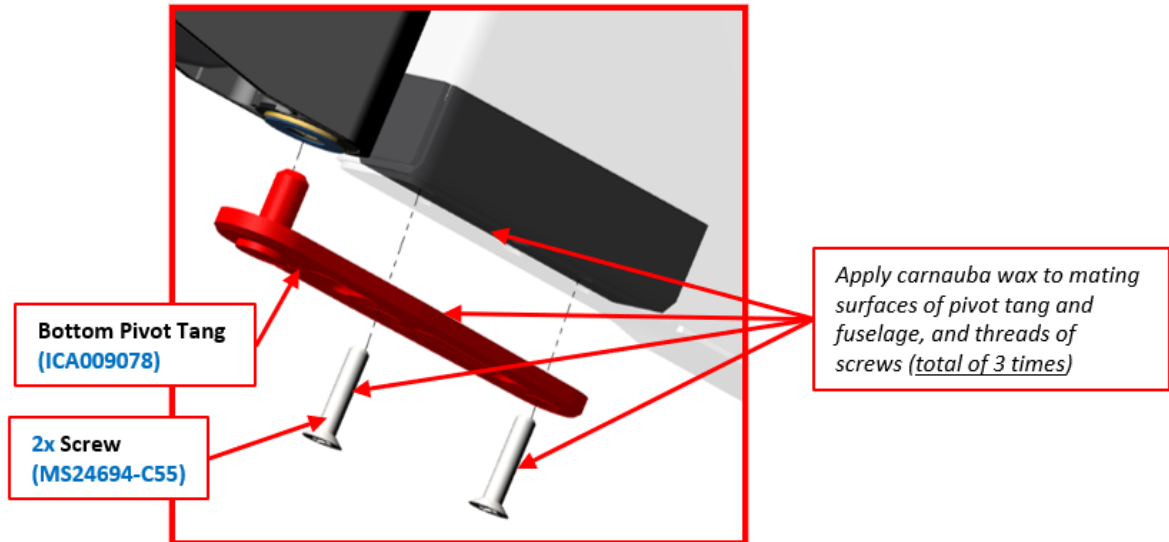

Figure 12. Pivot Tang Wax
- p. Prepare the surface of the pivot tang (ICA009078) that mates with the fuselage skin, as well as the corresponding fuselage skin surface, for potting by doing the following (**Figure 12**):